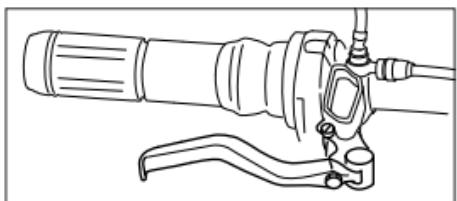

Fig. 12
- Pull the lever and lock it to the handle bar by means of an elastic, as shown in figure 12.
Before removing the syringe it is necessary to release the pump lever that had previously been locked (Fig. 12).